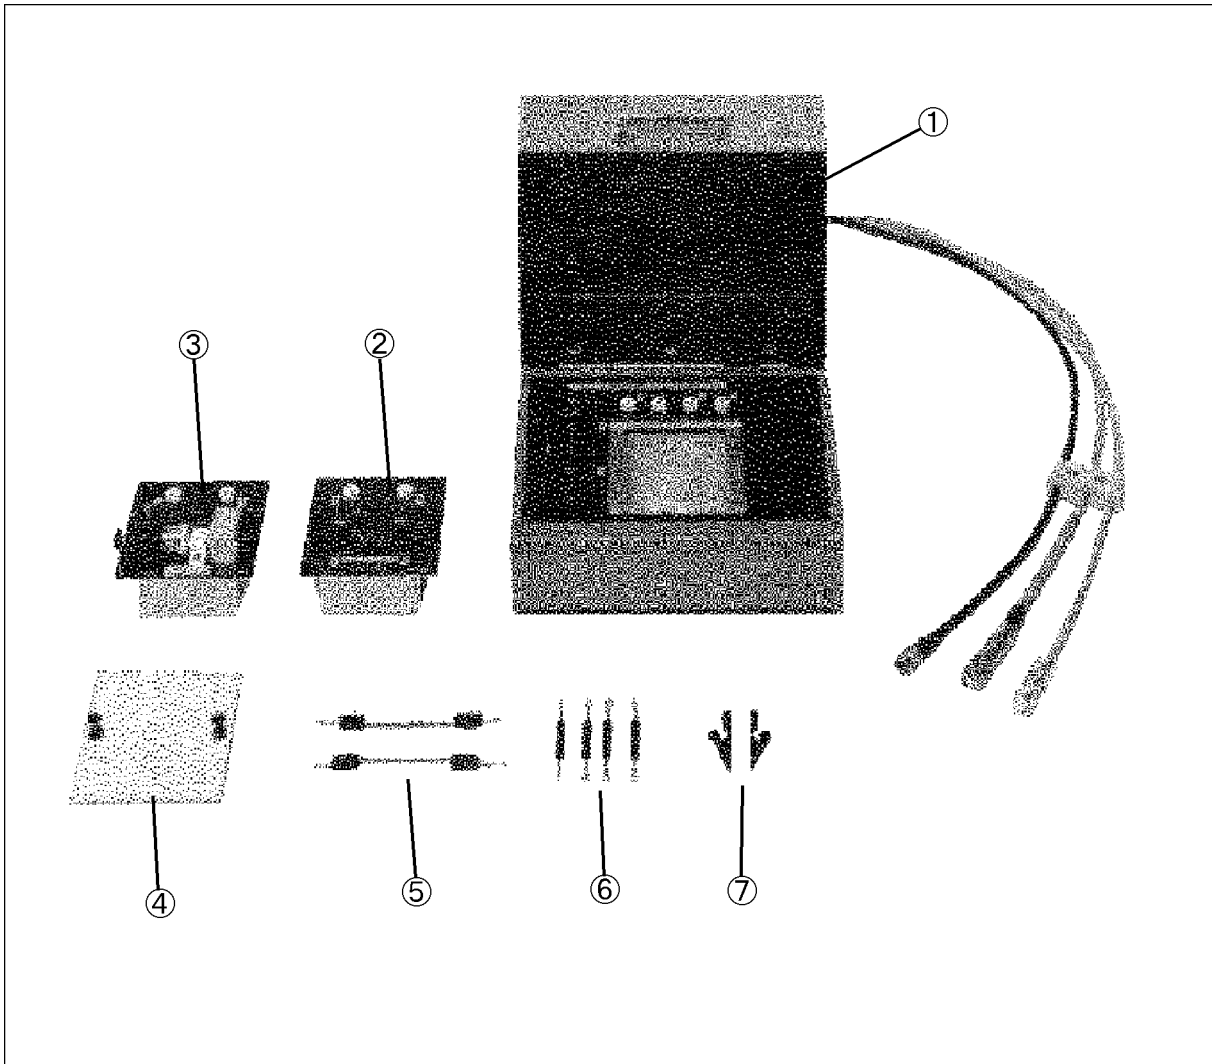

Figure 2-1. Product Overview
2. Verify that the shipping container contains everything shown in Figure 2-1 and listed in Table 2-1.
¹ Carrying Case and Operation and Service Manual is not shown in Figure 2-1.